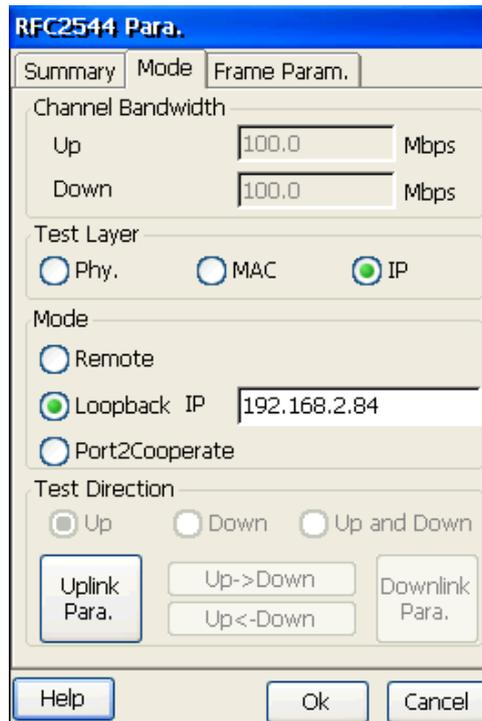

Figure 6.1.2 Main Tester Parameter Setting
**Step1:** Power on the tester and configure the port, click “RFC2544 Para. Set” menu item to enter RFC2544 parameter setting box, as is shown as in figure 6.1.2.